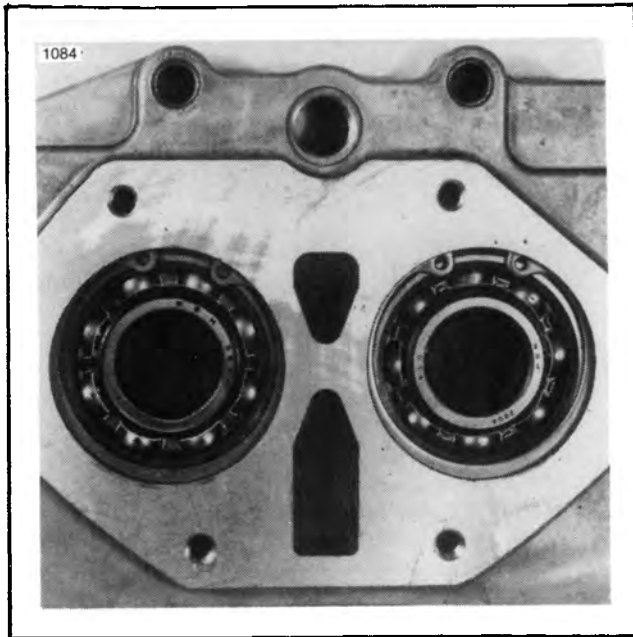

Figure 7-17. Side Door Bearings
4. See Figure 7-17. Inspect the bearings in the side door. If bearings are pitted or grooved or feel rough when turned, replace the bearings.